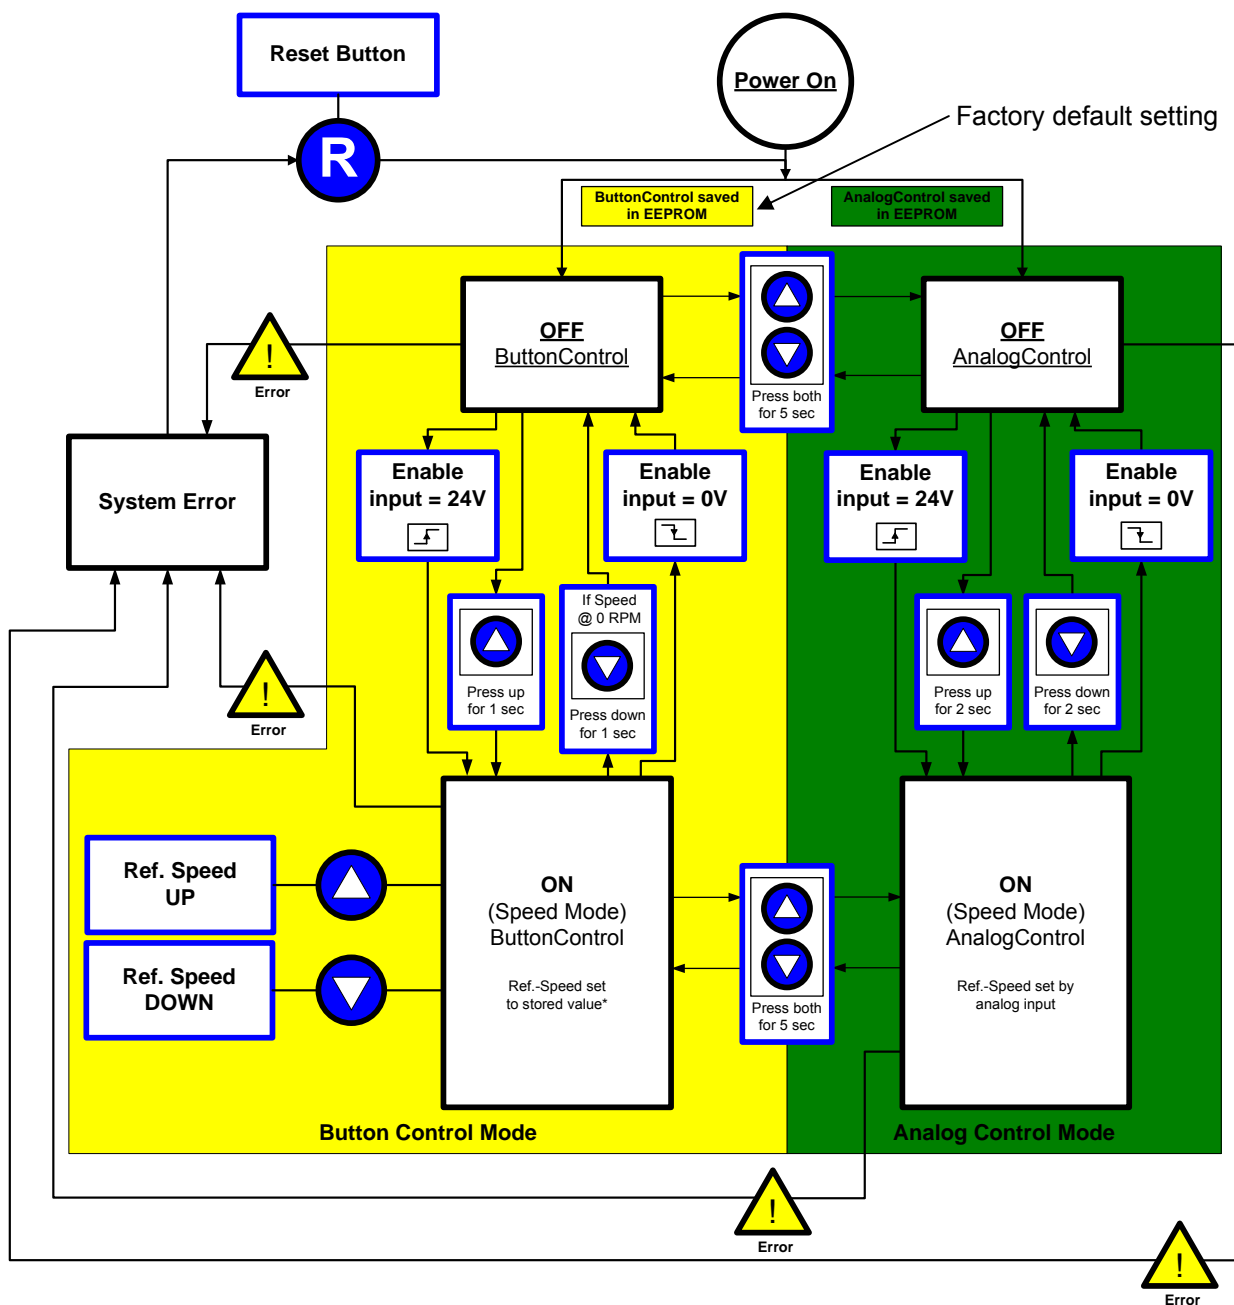

Figure 32: State diagram for operation with LPC-4000.1 controller
The controller *LPC-4000.1* allows stand-alone operation with manual speed setting ("Button Control Mode") as well as extended operation with analog speed setting (Analog Control Mode). *Figure 32* shows the state diagram which can be controlled with the manual buttons and the signals on the "USER INTERFACE" connector. The operation mode can be chosen by pressing the "UP" and "DOWN" buttons simultaneously during 5 seconds. For the standard firmware *F1.25* default setting ex factory is "Button Control Mode".
- When applying power the system defaults into the “Button Control Mode” and goes into the status “OFF ButtonControl” according to *Figure 32*. Levitation is disabled and the display indicates “OF”.